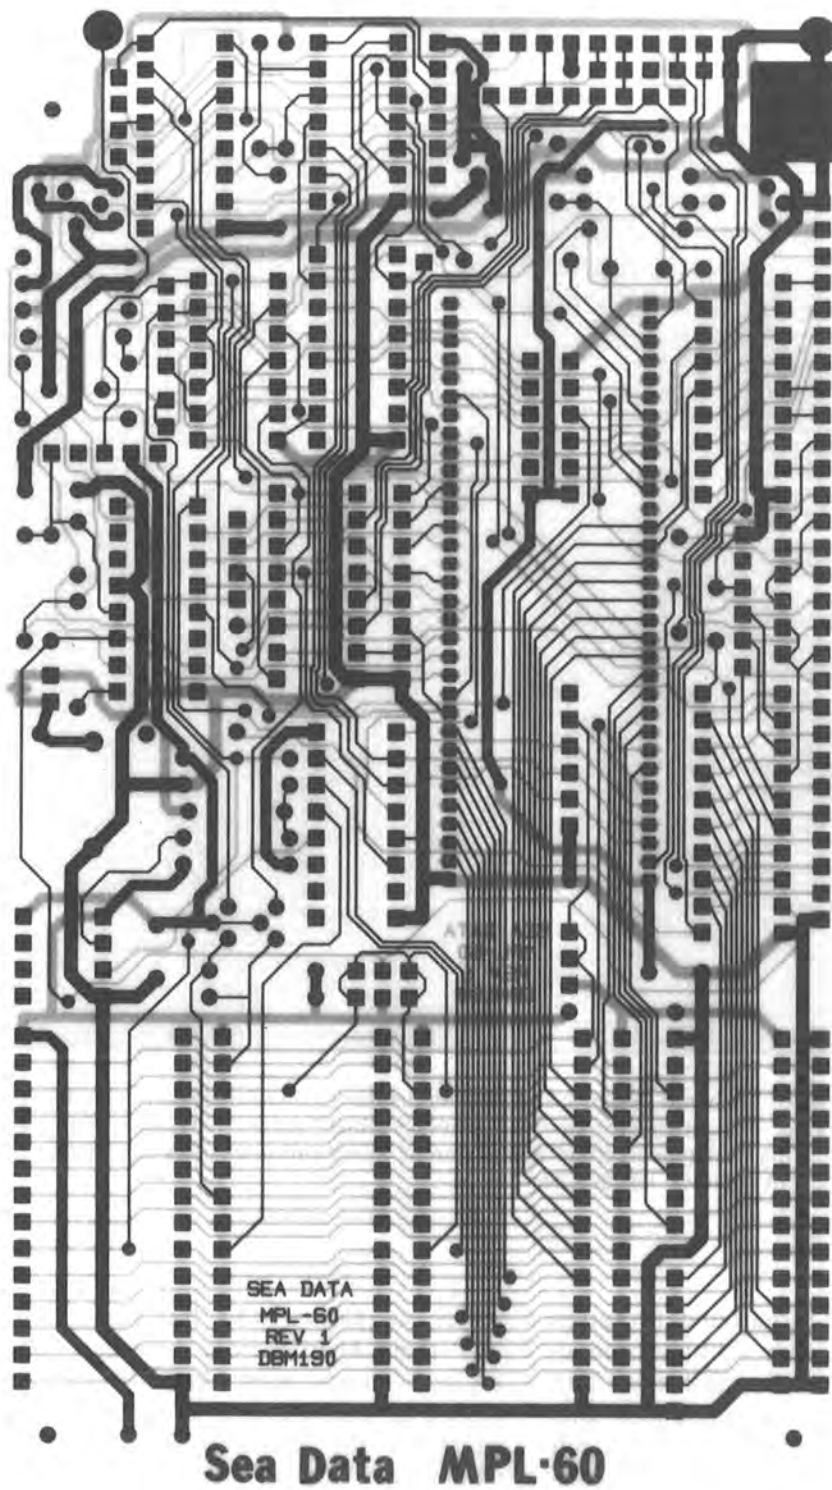

Figure 12.10. Photoplot for the double-sided board shown in Figure 12.11. Both layers are overlaid in this photograph, showing the view from the solder side.
- *Photoplot and drill tape.* If all has gone well, the last stage of the process consists of producing a machine-readable board description suitable for the PC house. For this you need two things: a tape that tells a photoplotter how to draw a precision plot of the "artwork" (the individual foil patterns for each layer, a pattern for the "solder mask," and a silkscreen pattern for printed legends) and a "drill tape," which tells each hole size and its precise position. The artwork tape is usually written in "Gerber format," named after a brand of photoplotter that exposes film by moving a large easel under a stationary projector in response to commands written on tape. (A newer form of photoplotter uses laser scanning, producing large plots in minutes rather than the hours required by the early Gerber machines.) Some PC board fabricators want you to supply the finished photoplots (Fig. 12.10), whereas others ask for the Gerber tape itself. A surprising number of board houses ignore the drill tape, preferring to figure out where the holes go by manually digitizing the photoplotted artwork (if you ask, they'll tell you that customer-supplied drill tapes sometimes have crazy commands that break their drill bits). Drill tapes, believe it or not, are not magnetic tapes; they are *paper* tapes!